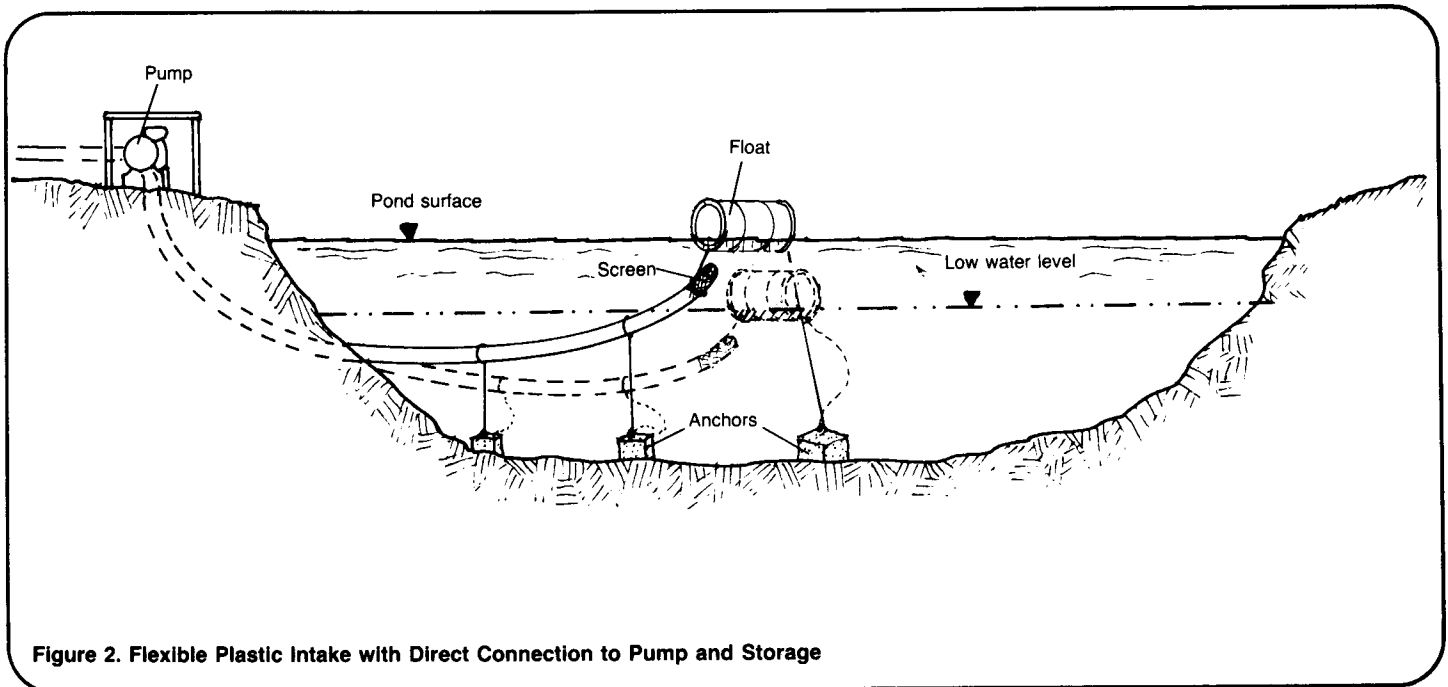

Figure 2. Flexible Plastic Intake with Direct Connection to Pump and Storage
In order to design an intake for a pond, lake, or reservoir, it is necessary to (1) select the location for the intake, (2) decide on the diameter, length and type of pipe required, (3) design an inlet strainer, (4) design floats and fixed intake supports, and (5) choose the appropriate installation. Figure 2 shows a typical
design for a floating intake. The pipe is plastic and the intake is positioned so it is always 0.3-0.5m below the surface to keep out plants from the surface and sediment from the bottom. If water is silty, it enters a clear well for sedimentation. Otherwise, it is pumped directly to treatment and/or storage. Refer to Figure 2 while reading the remainder of the section on the basic design of intakes.
Instead of a raft, a barrel or other floating container can be used. Figure 2 shows an intake suspended from an empty barrel. If a barrel or other container is available, the cost of installation may be less than for a